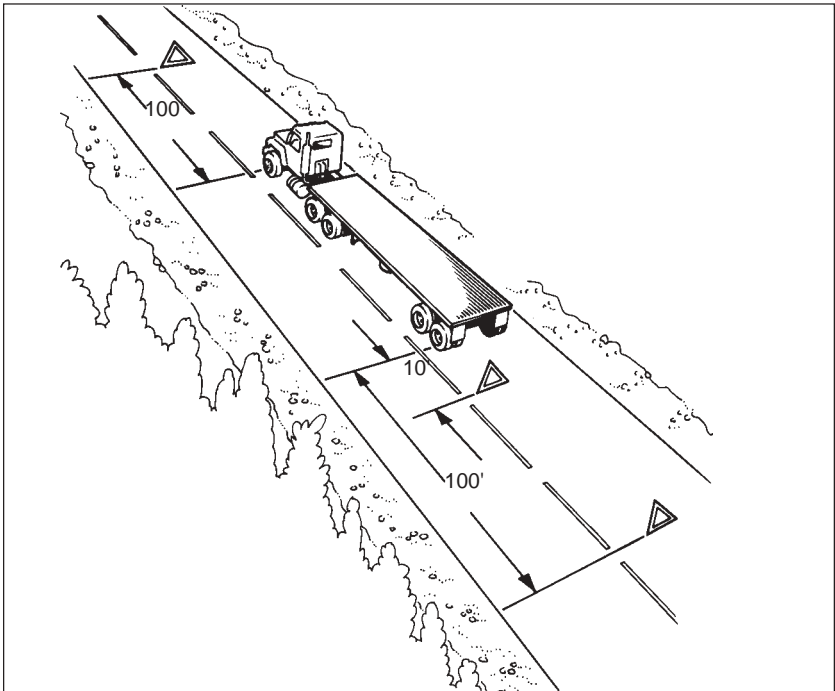

Figure 2-8
- If you stop on a two-lane road carrying traffic in both directions or on an undivided highway, place warning devices within ten feet of the front or rear corners to mark the location of the vehicle and 100 feet behind and ahead of the vehicle, on the shoulder or in the lane you are stopped in. (Figure 2-8.)